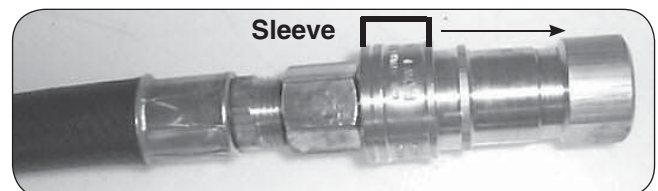

Fig. 7-3 Pull sleeve back
1. Pull socket sleeve back (Fig. 7-3).